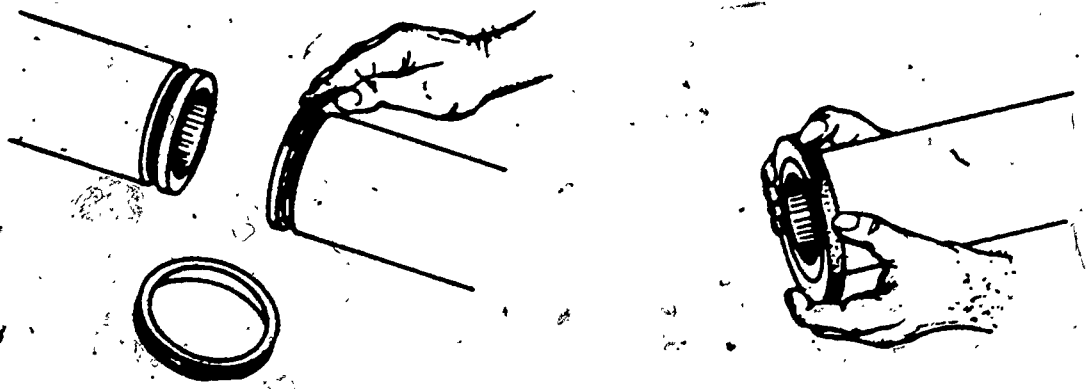

Figure 4. Applying Grease and Installing Gasket
1. Smear ordinary cup grease on pipe ends and outside the gasket to make the installation, see figure 4.